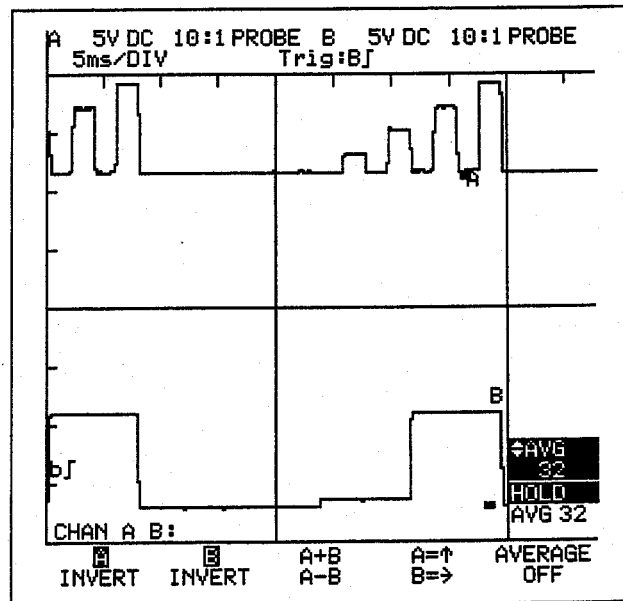

Figure 6.23
- Use  and   and   until you have a display as shown in Figure 6-23.